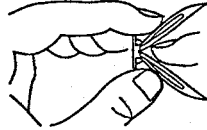

Figure 5 - Folding Anchor
2. Fold anchor, as shown in Figure 5.